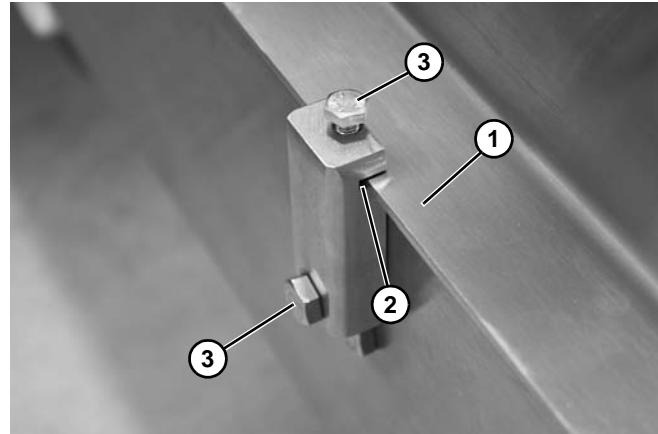

Figure 34
3. Install guide (**Figure 34, item 1**) into the slot (**Figure 34, item 2**) of the mounting block and tighten bolts (**Figure 34, item 3**).